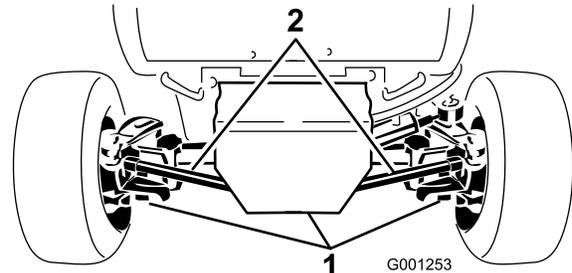

Figure 54
2. Clean the area around the 3 drain plugs, 1 on each end and 1 in the center (Figure 54).